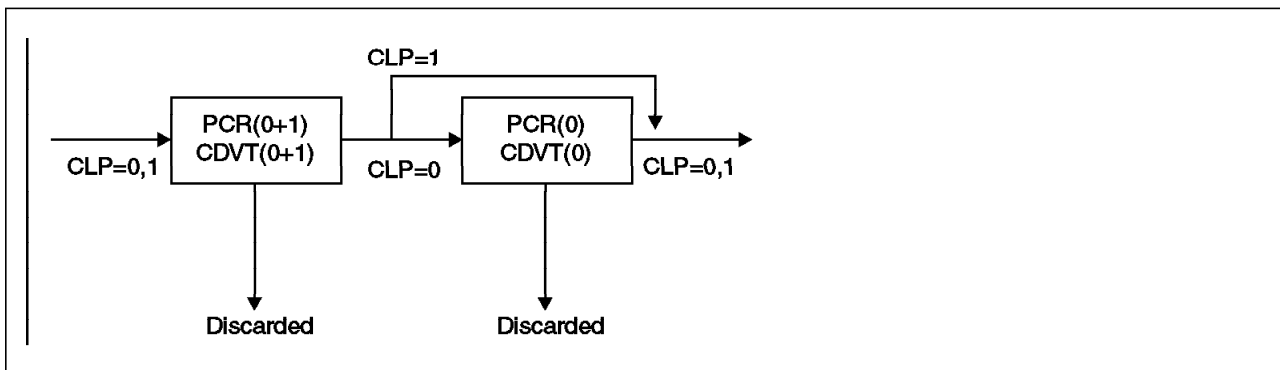

Figure 100. GCRA for Traffic Descriptor 4 (No Tagging)
Figure 100 shows the GCRA for traffic descriptor 4 checking PCR(0) and CDVT(0) and discarding nonconforming cells.